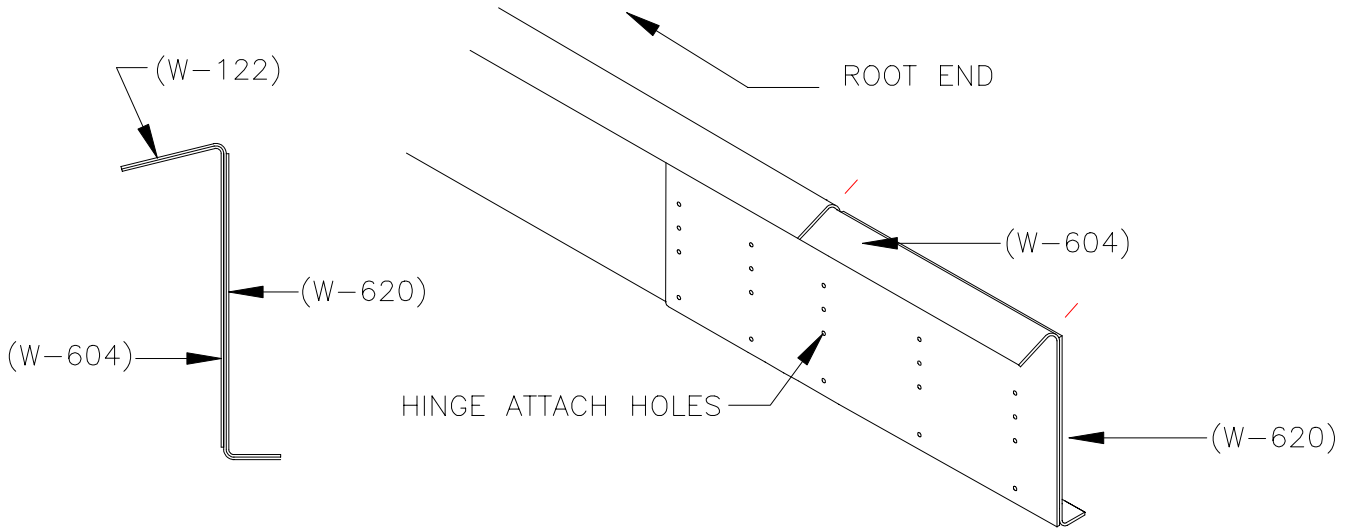

Figure 8.4.4
6) Cleco the W-604 Extension Top back into place. Drill through the Rear Spar and W-620 Extension Bottom using W-604 as a drill guide. Drill #40 holes in reference to Figure 8.4.4.